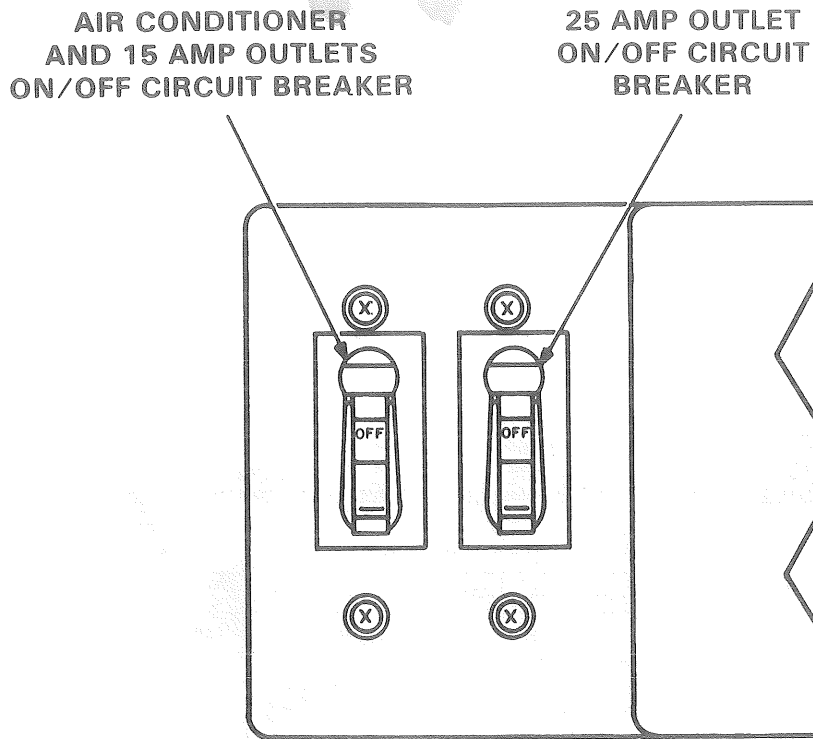

Figure 6
- (5) Insure AC ENTRANCE BOX controls of the AN/GRC-142 or AN/GRC-122 are in the OFF position as shown in figure 6.